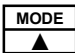

*Fig. 2.23*
- 2 Move the marker to the "**ppb**" command and press the key . The display shown in Fig. 2.23 shall come up indicating value in ppb.